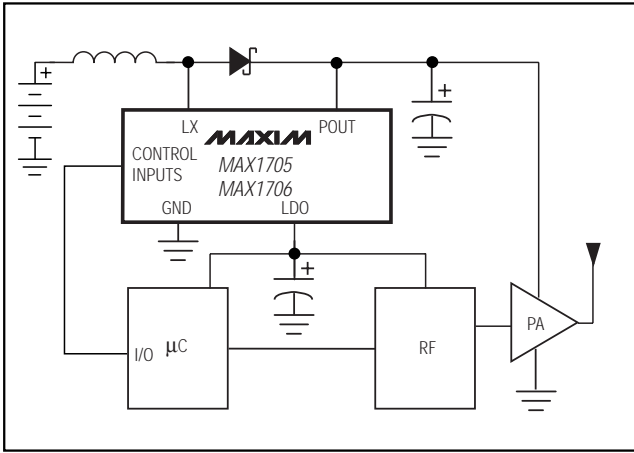

Figure 9. Typical Phone Application
The MAX1705/MAX1706 are ideal for use in digital cordless and PCS phones. The power amplifier (PA) is connected directly to the step-up converter output for maximum voltage swing (Figure 9). The internal linear regulator is used for post-regulation to generate low-noise power for DSP, control, and RF circuitry. Typically, RF phones spend most of their life in standby mode and short periods in transmit/receive mode. During standby, maximize battery life by setting CLK/SEL = GND and TRACK = OUT; this places the IC in PFM and track modes (for lowest quiescent power consumption). In transmit/receive mode, set TRACK = GND and CLK/SEL = OUT to increase the PA supply voltage and initiate high-power, low-noise PWM operation. Table 5 lists the typical available output current when operating with one or more NiCd/NiMH cells or one Li-Ion cell.